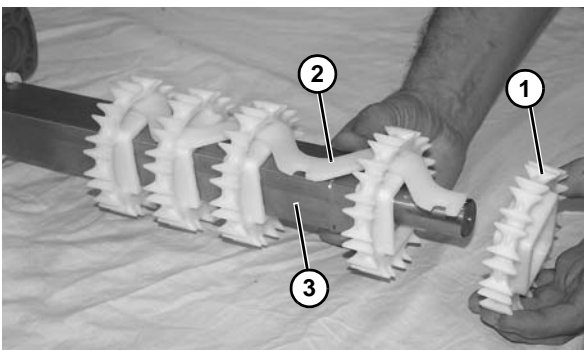

Figure 51
10. Remove the sprockets (**Figure 51, item 1**) and sprocket key (**Figure 51, item 2**) off the shaft (**Figure 51, item 3**).